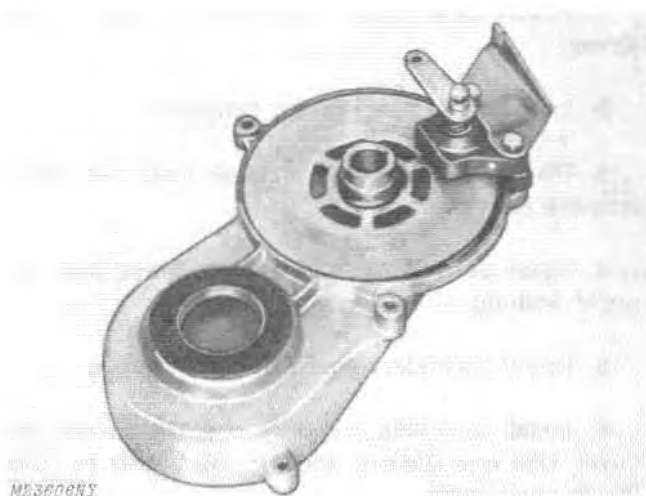

Fig. 21-Chain Case, Brake Disk and Pucks
9. Remove chain case with brake assembly, Fig. 21.